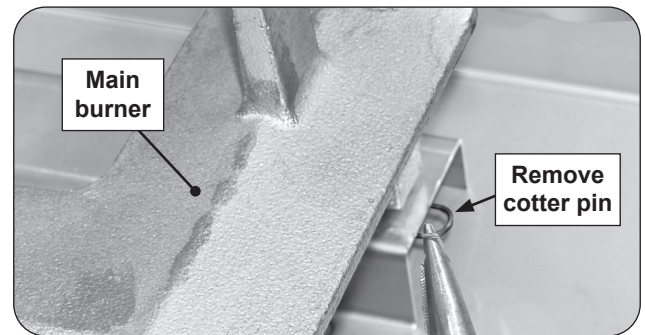

Fig. 37-2 Remove cotter pin
2. Locate and remove the cotter pin from the left or right rear burner anchoring peg by pulling it straight out of the cotter pin hole using fingers or needle-nose pliers. See Fig. 37-2.